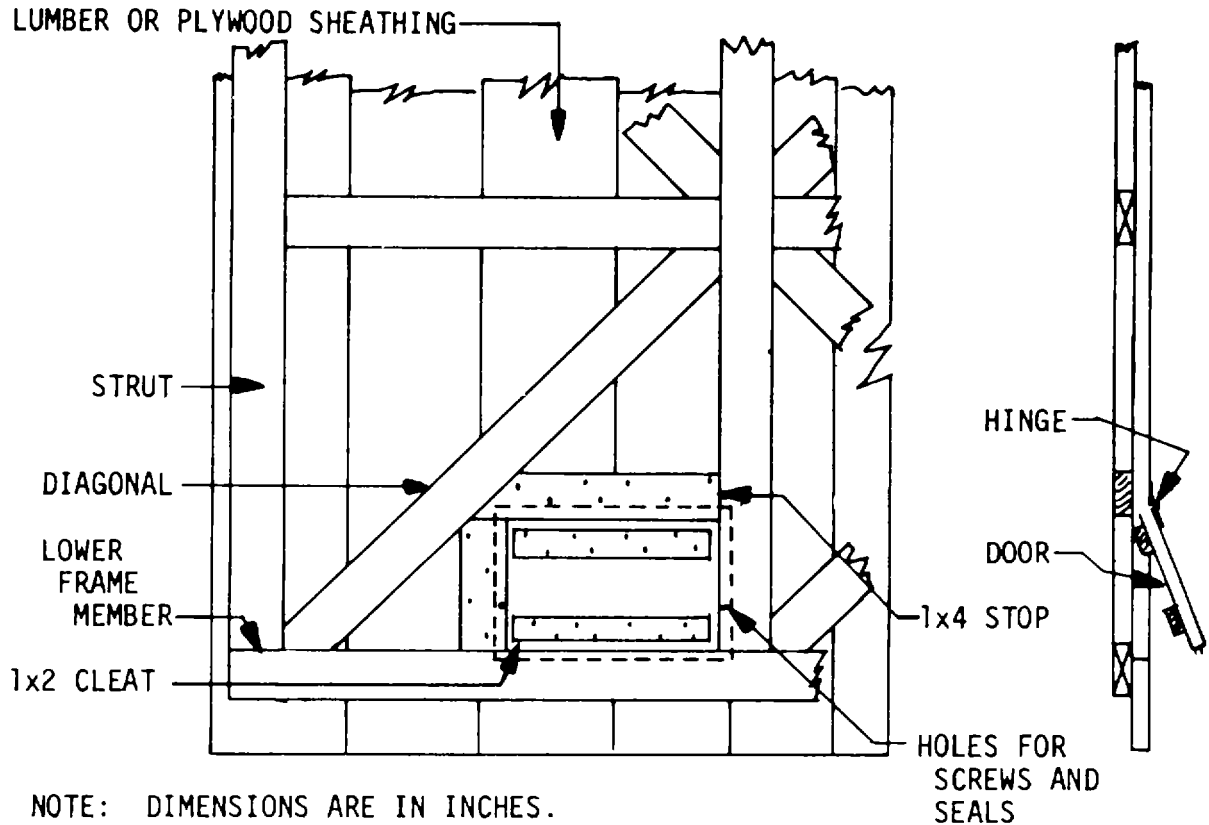

Figure D-3-13. Inspection Door (Inside View).
j. Inspection Doors. When specified, one or more inspection or access doors shall be provided. Doors shall be of the size and in the location specified by the procuring agency and will be used for interim inspection or servicing of contents. Doors shall be built without cutting the frame members and shall be hinged at the top and fastened by lag screws at the sides and bottom as shown in figure D-3-13. Cleats and stops shall be made of 1-inch material. Doors shall be made of the same type and thickness material used for sheathing. Holes shall be provided through the door and an adjacent frame member for a seal wire and lead seal bearing inspectors' stamp. When hinges with exposed screws are used, the hinge side of the door shall also be sealed.